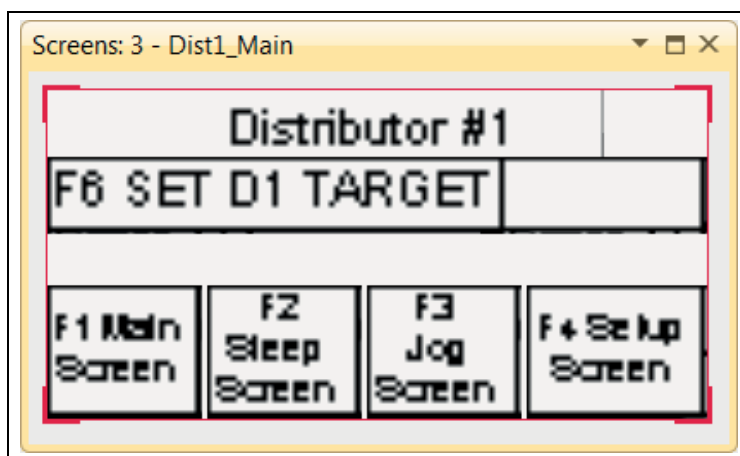

Figure 5Q
3. After pressing **F1**, the screen will appear as in Figure 5Q. By pressing the **F3** key, the user will be taken to the jog screen. Use this option to jog the spout manually, home the distributor and troubleshoot the system. This option will be discussed later. By pressing the **F4** key, the user will be taken to the setup screen. Use this option to setup the distributor control for the angle of sweep and the number of spouts in preparation of performing the distributor homing operation.